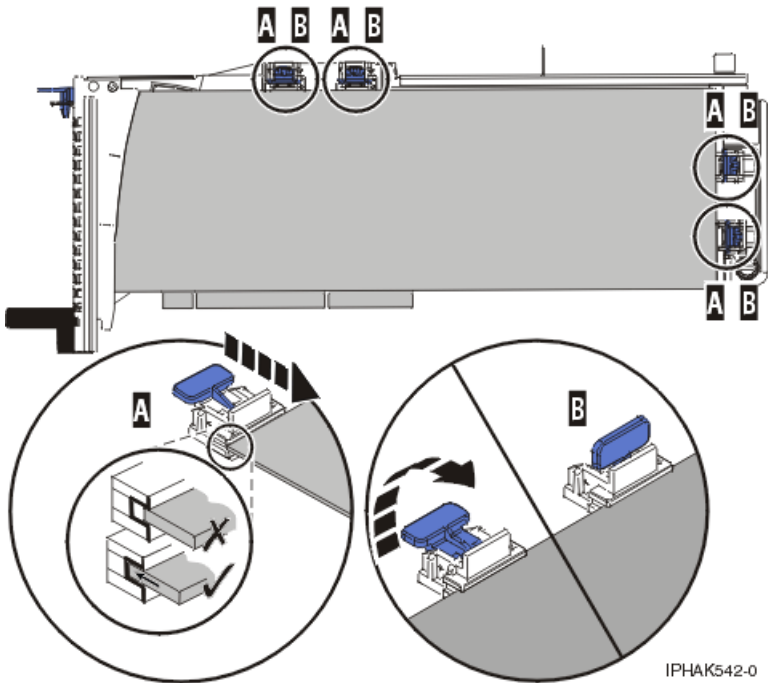

Figure 49. Long adapter in the PCI adapter cassette with the supports and stabilizer in place
- 3) Place and lock the retainers **B**. See Figure 49 on page 68.